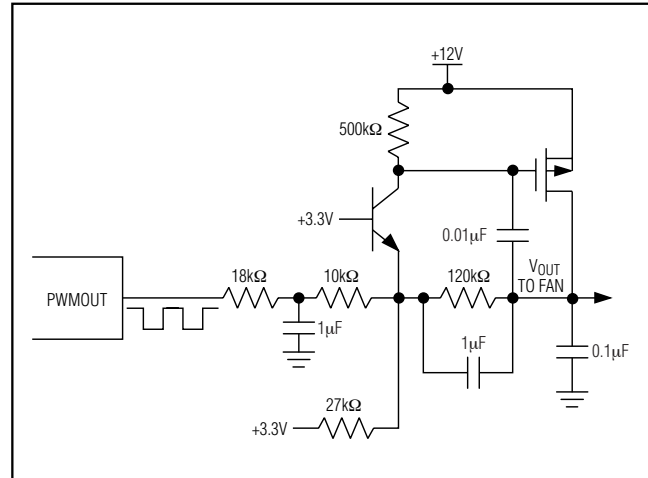

Figure 5. Driving a Fan with a PWM-to-DC Circuit
- 2) PWMOUT_ is converted (using an external circuit) into a DC voltage that is proportional to duty cycle. This duty-cycle-controlled voltage becomes the power supply for the fan. This approach is less efficient than 1), but can result in quieter fan operation. Figure 5 shows an example of a circuit that converts the PWM signal to a DC voltage. Because this circuit produces a full-scale output voltage when PWMOUT = 0V, bit D4 in register 02h should be set to zero.
The frequency-select register controls the frequency of the PWM signal. When the PWM signal modulates the power supply of the fan, a low PWM frequency (usually 33Hz) should be used to ensure the circuitry of the brushless DC motor has enough time to operate. When driving a fan with a PWM-to-DC circuit as in Figure 5, the highest available frequency (35kHz) should be used to minimize the size of the filter capacitors. When using a fan with a PWM control input, the frequency normally should be high as well, although some fans have PWM inputs that accept low-frequency drive.